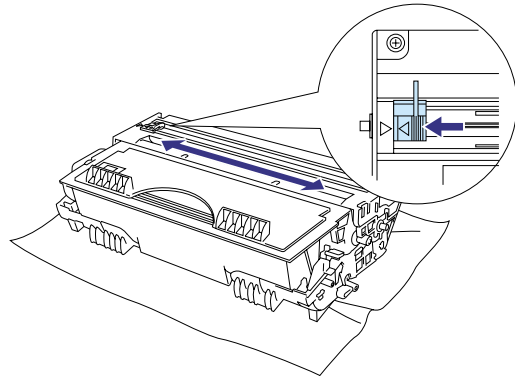

Fig. 5-5
- (6) Clean the primary corona wire inside the drum unit by gently sliding the wire cleaner (blue tab) to the right end and left end several times. (Fig. 5-5)
- (7) Return the cleaner to the home position before re-installing the drum unit.
- (8) Re-install the drum unit into the printer and close the front cover.
- Make sure that the wire cleaner on the drum unit is returned to the home position (▲ mark position) before re-installing the drum unit into the printer, or printed pages may have vertical stripes. (Refer to Fig. 5-5.)